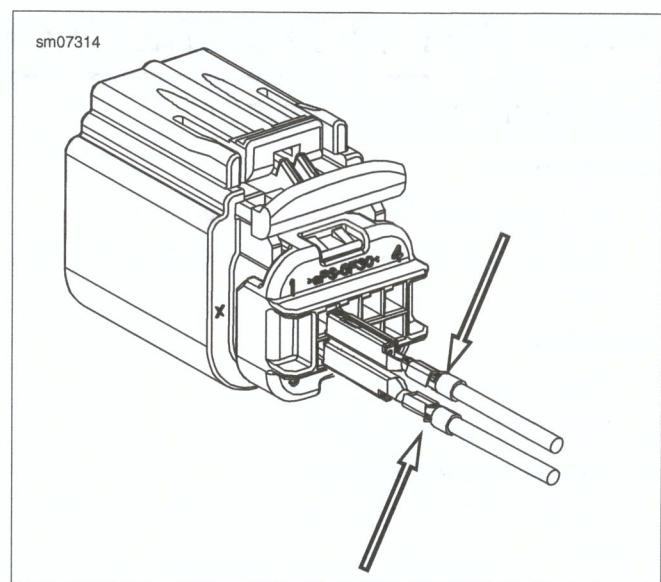

Figure A-32. Socket Terminal Orientation: Crimp Open Side
1. See Figure A-32. Align the open side of the crimp to the tang side of the housing cavity.